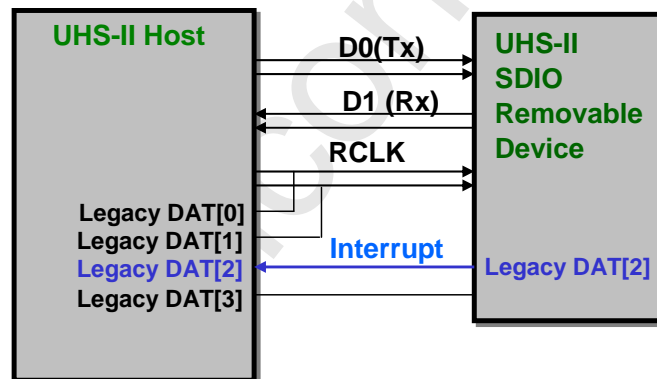

Figure 8-12 : Out-of-band Interrupt for SDIO Removable Device
- Out-of-band interrupt method: Interrupt is notified by a signal line other than UHS-II Lanes, as shown from Figure 8-12 to Figure 8-14.
Figure 8-12 shows the overview of signal connection between Host and UHS-II SDIO removable card. Different from SD mode, not DAT[1] but DAT[2] is assigned for out-of-band interrupt signal in UHS-II mode. Out-of-band interrupt is asynchronous and low active, and its voltage level is 3.3V. Host detects interrupt using a level sensitive input.